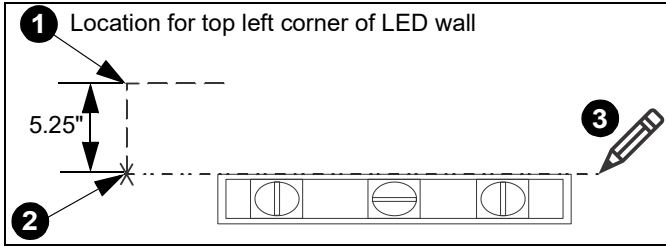
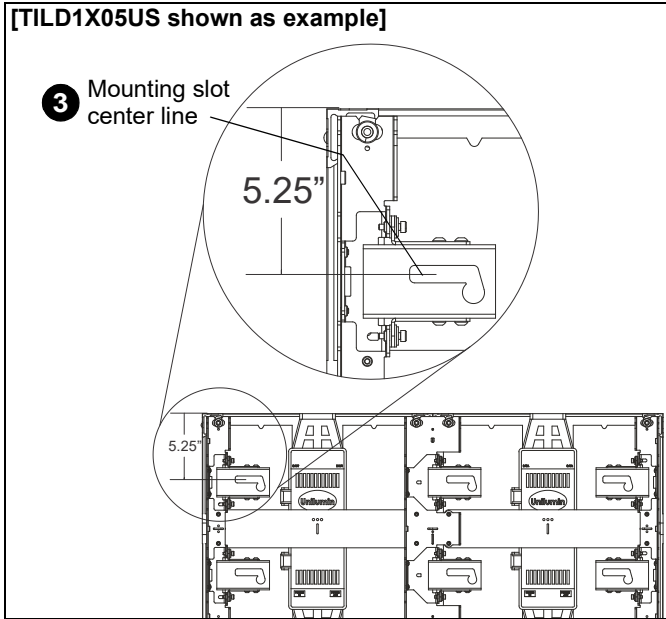

Figure 5
Figure 6
**IMPORTANT !** : The top of the LED screen is 5.25" above the center line of the mounting lags in the upper mounting slots. (See Figure 5)
1. Determine location for the **top left** corner of the LED wall. (See Figure 5)
2. Make a mark 5.25" below the planned top left corner of the LED wall. (See Figure 5)
**NOTE:** This line will indicate the center line for the location of the mounting lags in the mounting slots for the top mount(s) in the video wall. The oversize mounting slots will allow some upward adjustment as needed. (See Figure 5) and (See Figure 6)